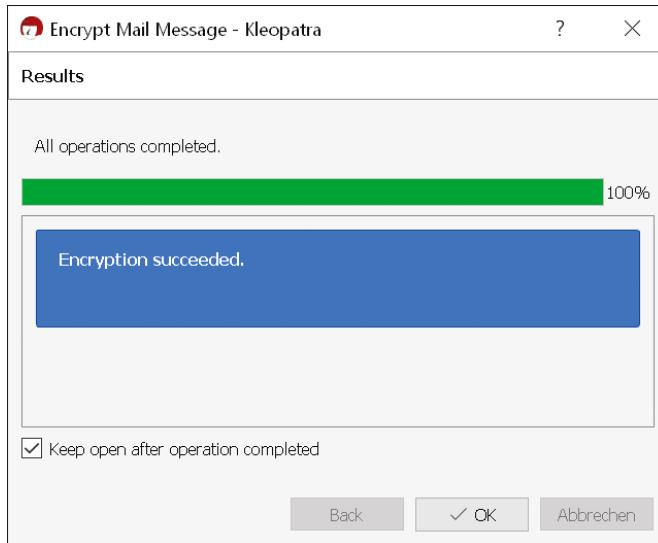

Figure 10.39 Success Message When Kleopatra Has Encrypted the Clear Text
7. When the message **Encryption Succeeded** is displayed, click **OK** (Figure 10.39).